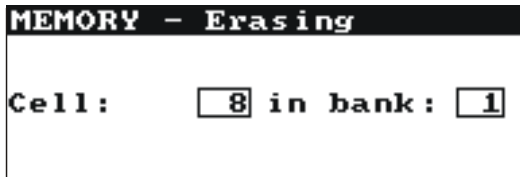

Fig.25. Deleting a memory cell: 1 – bank No, 8 – cell No, **1** – bank with at least one cell used, **8** – a cell in use
- Using keys  and  choose the bank number and using keys  and  the cell number you want to delete (Fig.25)